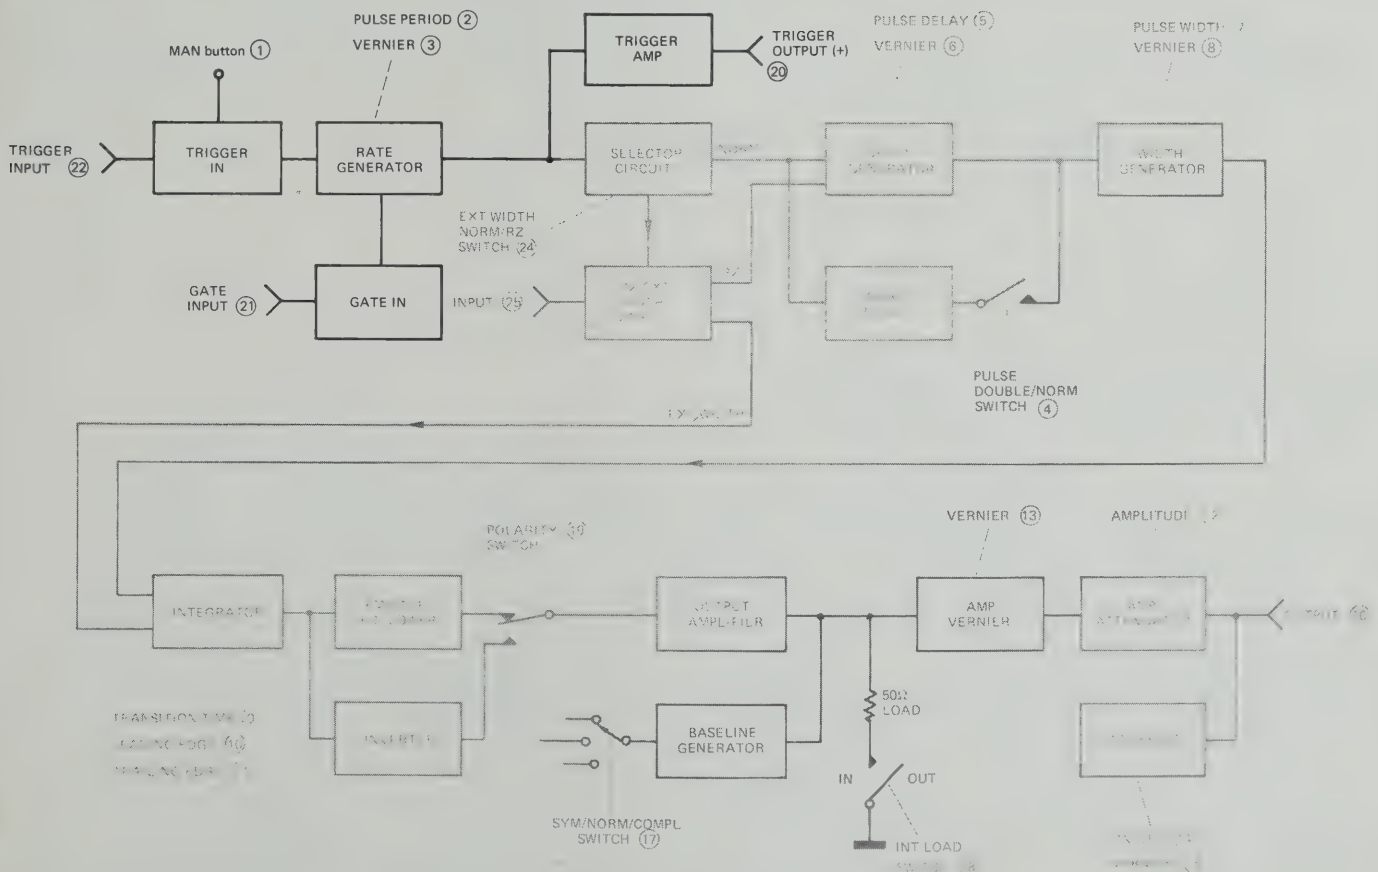

Figure 3-24. Independent clock generator in RZ/EXT WIDTH modes - block diagram
output can be triggered internally, externally or manually and can also be gated as in the normal operating mode. If this facility is not required, it can be switched off by setting the PULSE PERIOD control (2) to EXT and disconnecting the TRIGGER INPUT (20). The circuits and controls involved in this facility are shown in Figure 3-24.